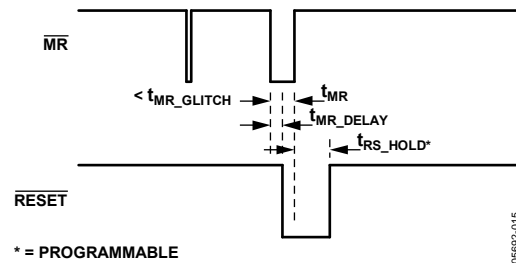

Figure 15. Manual Reset ($\overline{\text{MR}}$) Timing Diagram
The $\overline{\text{MR}}$ and $\overline{\text{RESET}}$ timing diagrams are shown in Figure 15. Note that $\overline{\text{RESET}}$ is activated after $t_{\text{MR_DELAY}}$ and is held for $t_{\text{RS_HOLD}}$ after the $\overline{\text{MR}}$ signal has gone high again.
- When $\overline{\text{MR}}$ is asserted (see Figure 15)